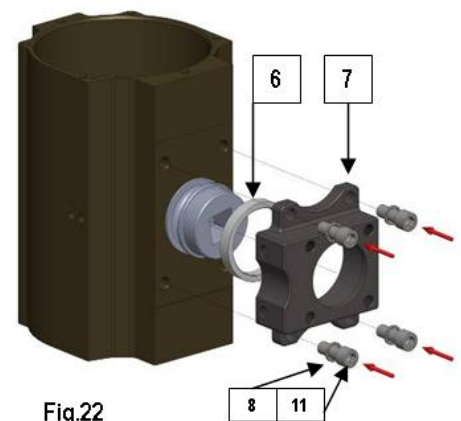

Fig.22
5. Remove the cylinder with pinion from the support and lay it on one base to mount the plate ( 7 ) with antifriction ring ( 6 ), (holes for adjusting screws on the same side as the NAMUR attachments) then screw down the fastening screws ( 11 ) with washer ( 8 ) in crossed sequence, see Fig. 22, and place the cylinder on the support again;